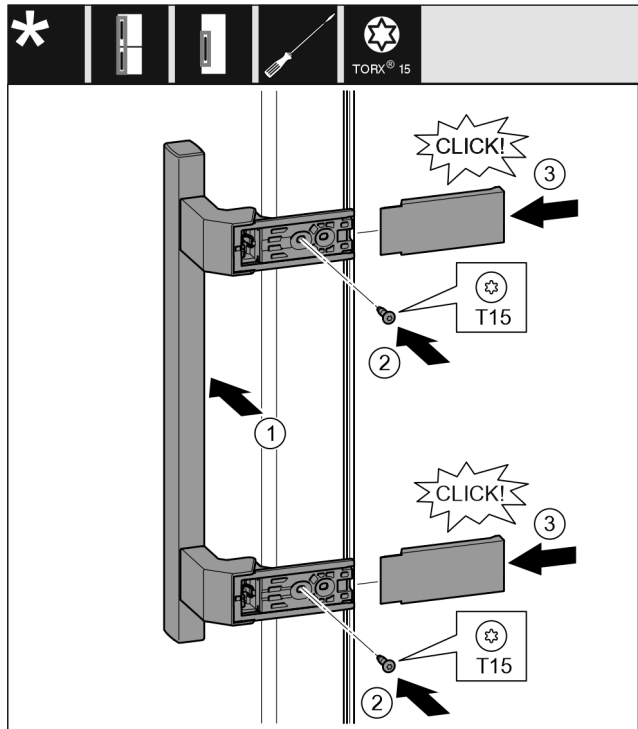

Fig. 11
- ▶ Attach the handle on the opposite side. *Fig. 11 (1)*
- ▶ Tighten screws with screwdriver T15. *Fig. 11 (2)*
- ▶ Place the covers on the side and push them on. *Fig. 11 (3)*